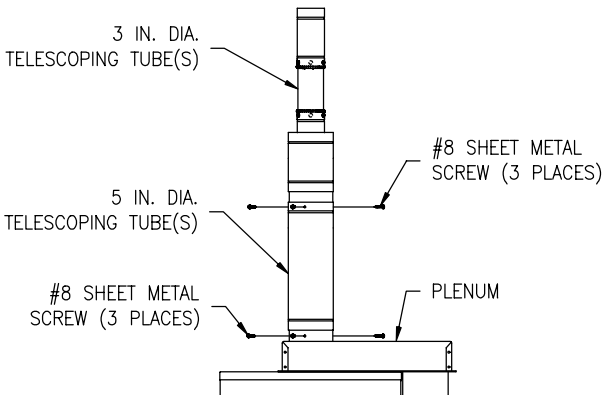

Figure 7b
Join the five (5) inch (12.7 cm) diameter telescopic tubes by inserting the small end of a tube into the large end of another, one (1) inch (2.5 cm) (or until seated). Drill three (3) 1/8 inch diameter holes, 120° apart, through each joint where the five (5) inch (12.7 cm) diameter telescopic tubes are joined. At this time, DO NOT drill holes where the small and large sections of the five (5) inch (12.7 cm) diameter telescopic tubes overlap. Fasten each joint with three (3) #8 sheet metal screws (supplied). Compress the joined five (5) inch (12.7 cm) diameter telescopic tubes to minimum length. Place the large end of the joined five (5) inch (12.7 cm) diameter telescopic tubes through the hole in the ceiling (if applicable). Place the small end of the joined five (5) inch (12.7 cm) diameter telescopic tubes over the joined three (3) inch (7.6 cm) diameter telescopic tubes and plenum collar until seated on top of the plenum box. Drill three (3) 1/8 inch diameter holes, 120° apart, through the joined five (5) inch (12.7 cm) diameter telescopic tubes into the plenum collar. Fasten with three (3) #8 sheet metal screws (supplied). (See Figure 7b).